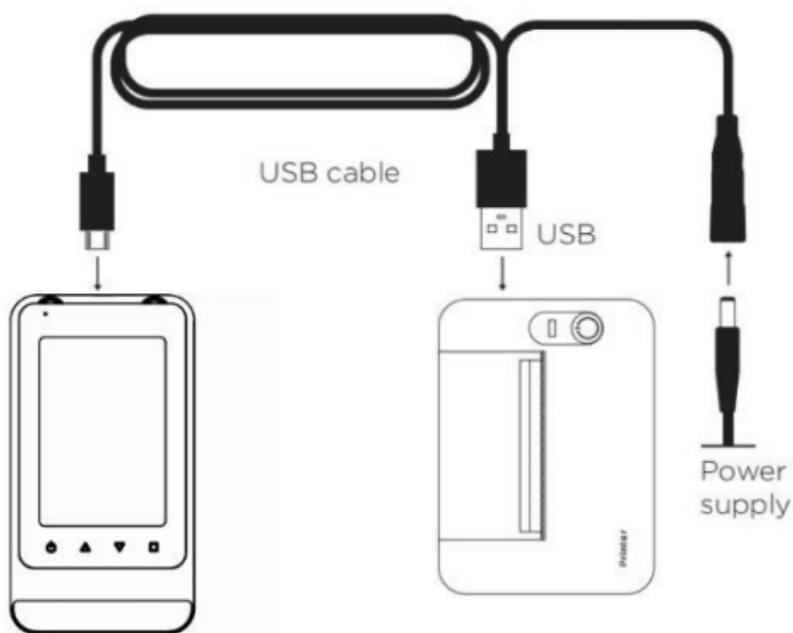

Figure 2.1
1. Connect one end of the USB cable to the adapter (the adapter is connected to the power supply), one end to the USB port on the printer and one end to the analyser, as shown in Figure 2.1. The printer must be connected to the power supply when in use.